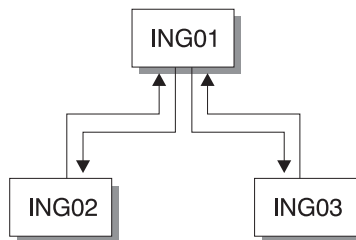

Figure 32. Automation Network Example for SA OS/390 Password Protection
The steps are described in more detail in this section, and reference the example automation network shown in Figure 32, which shows a focal point system connected to two target systems. All systems are named by their NetView domain IDs: ING01, ING02, and ING03.
1. Identify the gateway operator IDs that each system in your automation network needs. For example, referring to Figure 32 on page 158, systems ING02 and ING03 would both need a gateway operator ID (GATING01) to enable the logon from the outbound gateway operator on system ING01. System ING01 would need two inbound gateway operator IDs: one to enable the logon from system ING02, another to enable the logon from system ING03.
If your automation network shares a RACF or other SAF data set, you must define how the data set is to be shared. This applies only to systems that are connected to two or more other systems, which share the same RACF or other SAF data set. Use the customization dialog to specify the systems that share the data set and the system that owns the outbound gateway operator that connects to these systems. For example, if the automation network shown in Figure 32 on page 158 were sharing a RACF or other SAF password data set, a system programmer at system ING01 would use the customization dialog to make the following entries in the System Authorization Facility (SAF) Environment Definition panel as shown in Figure 33.